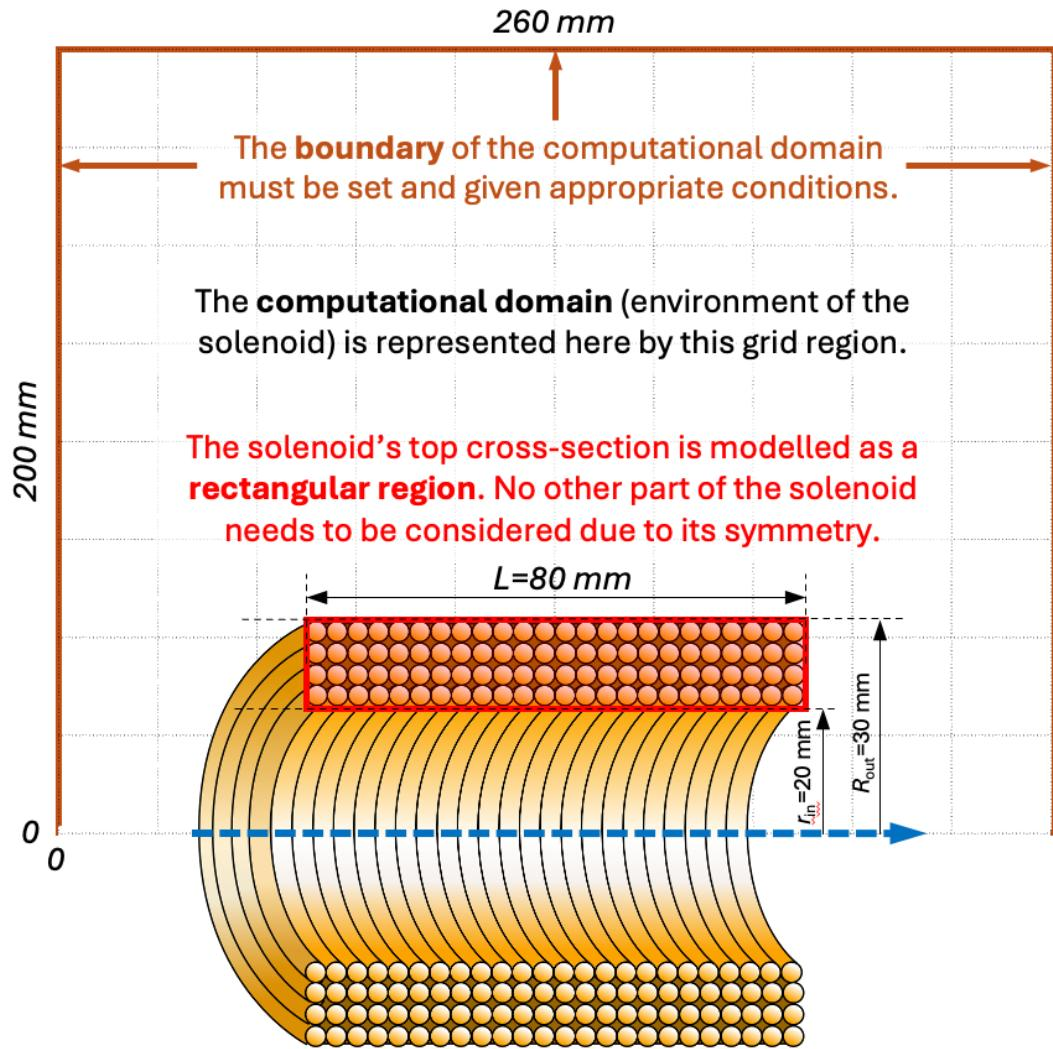

Figure 3: The main definitions of the model; the domain (environment), the *boundary* and the *solenoid's cross-section*.
Due to the symmetry of a solenoid, we need only deal with a cross-section through one side of the multi-layered coil (see Figure 3). There are four main model definitions we must create by either drawing or labelling and then setting their conditions. These are,
5. Repeat for the top and right-hand boundary lines (Note: because you’ve already created a label called “BOUNDARY” you just need to select it using the Label dropdown in the dialog box.) **Do not label the bottom boundary line. We don’t require a bottom boundary because of the symmetry of the model. The boundaries you’ve drawn are rotated about the z-axis, creating an enclosed region (see Figure 3 that only shows three sides to the boundary).**